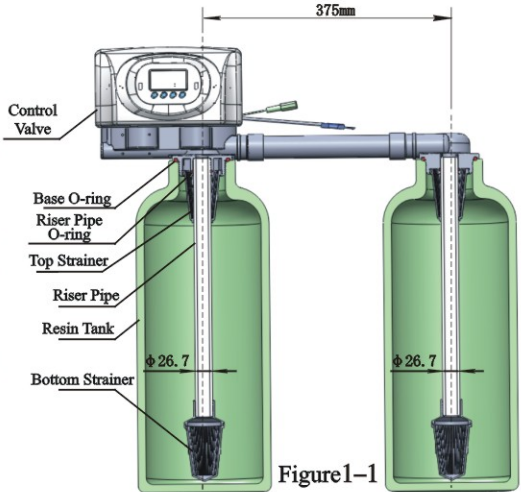

Figure1-1
- ⑤ Please avoid to install the system in one Acid/Alkaline, Magnetic or strong vibration circumstance, because above factors will cause the system disorder.
- ⑥ Do not install the filter or softener, drain pipeline in circumstance which temperature may drop below 5°C, or above 50°C.
- ⑦ One place is recommended to install the system which causes the minimum loss in case of water leaking.
① Install control valve
- a. As the Figure 1-1 shows, select the riser pipe with 26.7mm OD, glue the riser pipe to the bottom strainer and put it into the mineral tank, cut off the exceeding tube out of tank top opening.